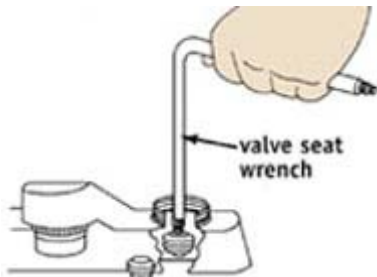

FIG. 3 - To remove the valve seat, insert a valve seat wrench into the faucet body and turn counterclockwise.
- Some washer seats can be unthreaded and replaced. Check the faucet body with a flashlight to see if it has a square or hexagonal hole through its center or is slotted for a screwdriver; if so, it is replaceable. However, if the seat simply has a round hole through its center and no slots, it is not replaceable. In this case, dress it with a seat-dressing tool. To replace it, you'll need a faucet seat wrench, which comes with a combination of square and hex heads to fit most faucet seats. Turn the washer seat counterclockwise to loosen, clockwise to tighten (Fig. 3). Add a little silicone rubber sealant (RTV) or pipe joint compound around the threads of the seat before you install it to make it easier to remove during future repairs.